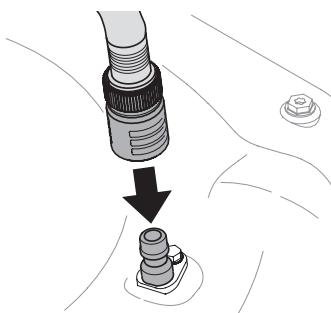

Figure 13
- Attach garden hose with the deck wash nozzle to the water port on your deck's surface. See Figure 13.